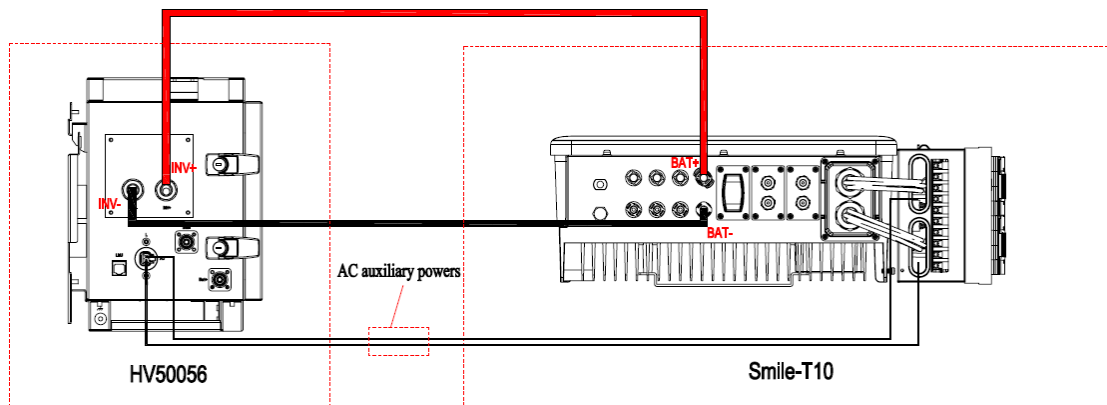

Figure 26 Connection of the Power Cables and AC Auxiliary Cable
Step 8: Please connect one DC power cable from INV+ port on HV50056 to BAT+ port on SMILE-T10-INV, and another DC power cable from INV- port on HV50056 to BAT- port on SMILE-T10-INV. The AC auxiliary power cables which have been prewired onto the inverter, shall be connected to the AC auxiliary port on HV50056, as shown in Figure 26.